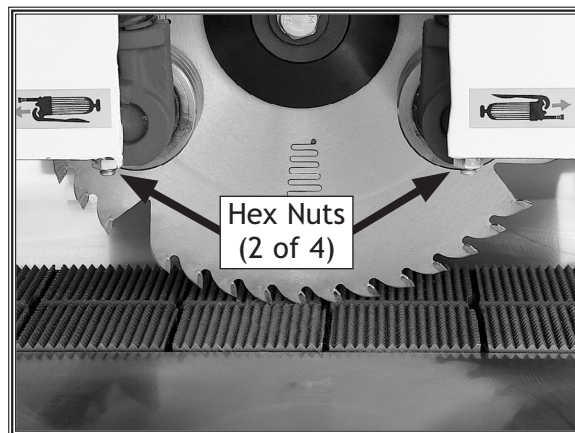

Figure 22. Location of hex nuts to remove.
3. Use the 13mm wrench to remove the four hex nuts from the set screws on the underside of the head casting (see **Figure 22**)—two on both sides of the headstock.